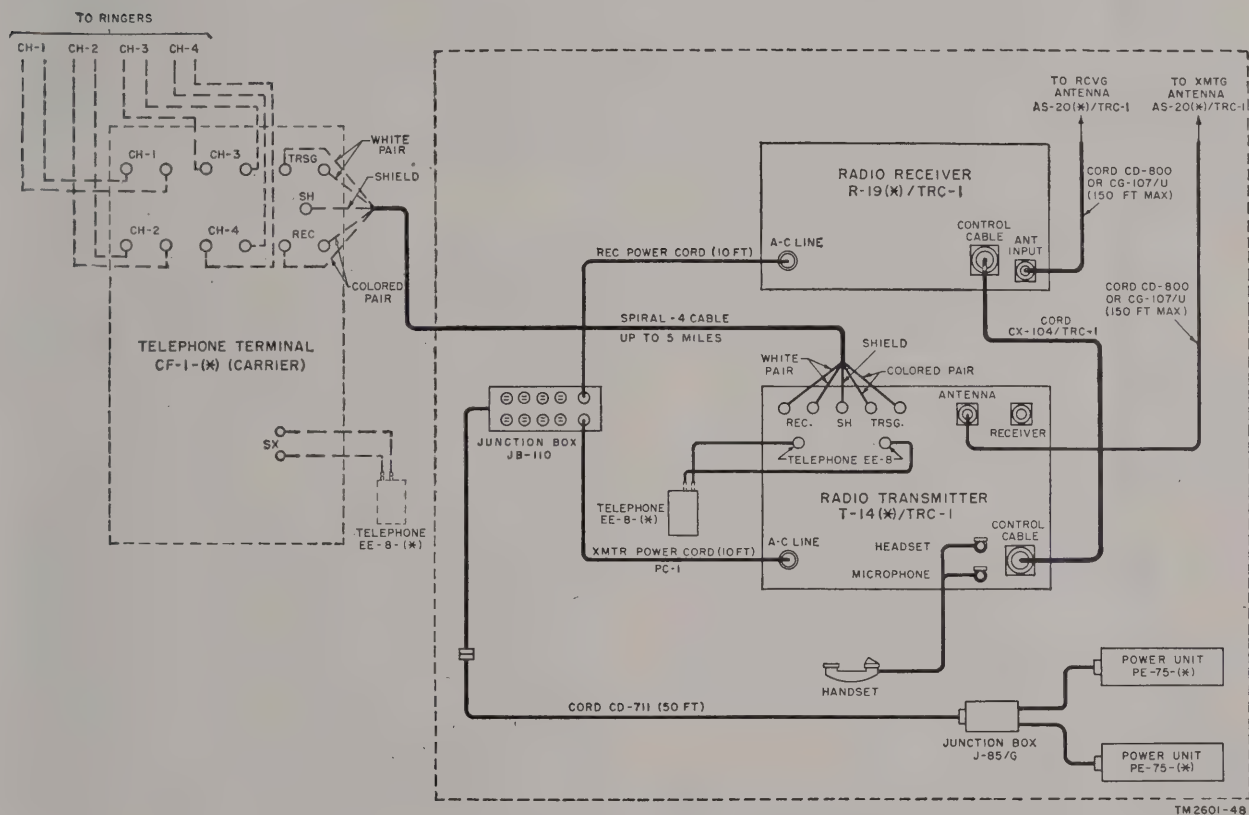

Figure 76. Cording diagram of Radio Terminal Set AN/TRC-3(*) in duplex multichannel system.
a. Cord CD-711 is a 50-foot, two-conductor, rubber-covered extension cord with a twist lock plug at one end and a socket at the other (par. 30d). It connects the power unit to the cord from Junction Box JB-110. If Radio Terminal Set AN/TRC-3(*) is used, Junction Box J-85/G (not included with Radio Set AN/TRC-1(*)) may be used between the power units and Cord CD-711 (fig. 76).
a. Cord CD-711 (50-foot) is used to connect Junction Box J-85/G, at the power units, to Junction Box JB-110, at the radio station (fig. 76).